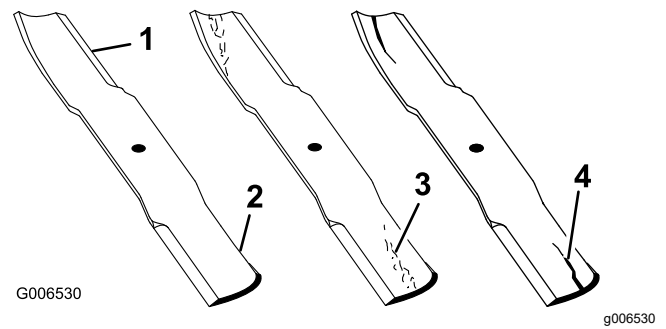

Figure 75
1. Inspect the cutting edges (Figure 75).
4. If you notice any cracks, wear, or a slot forming in this area, immediately install a new blade (Figure 75).